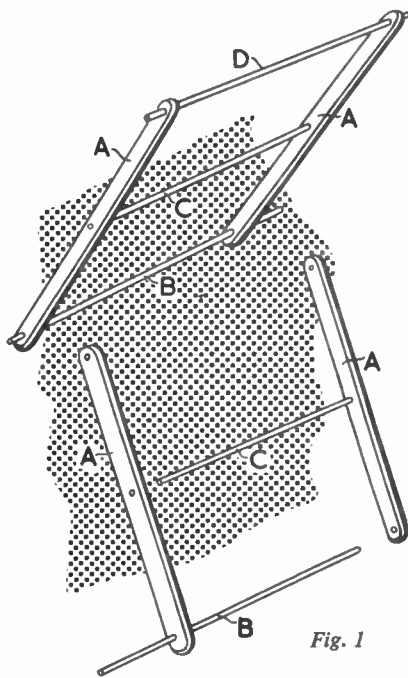

Fig. 1
No actual measurements are shown because these will depend upon your own personal requirements. The pieces (A) are of 1½in. by ¾in. stripwood and can be between 2ft. and 3ft. in length. Each piece is drilled to take ½in. round rod as shown in the exploded view in Fig. 1.